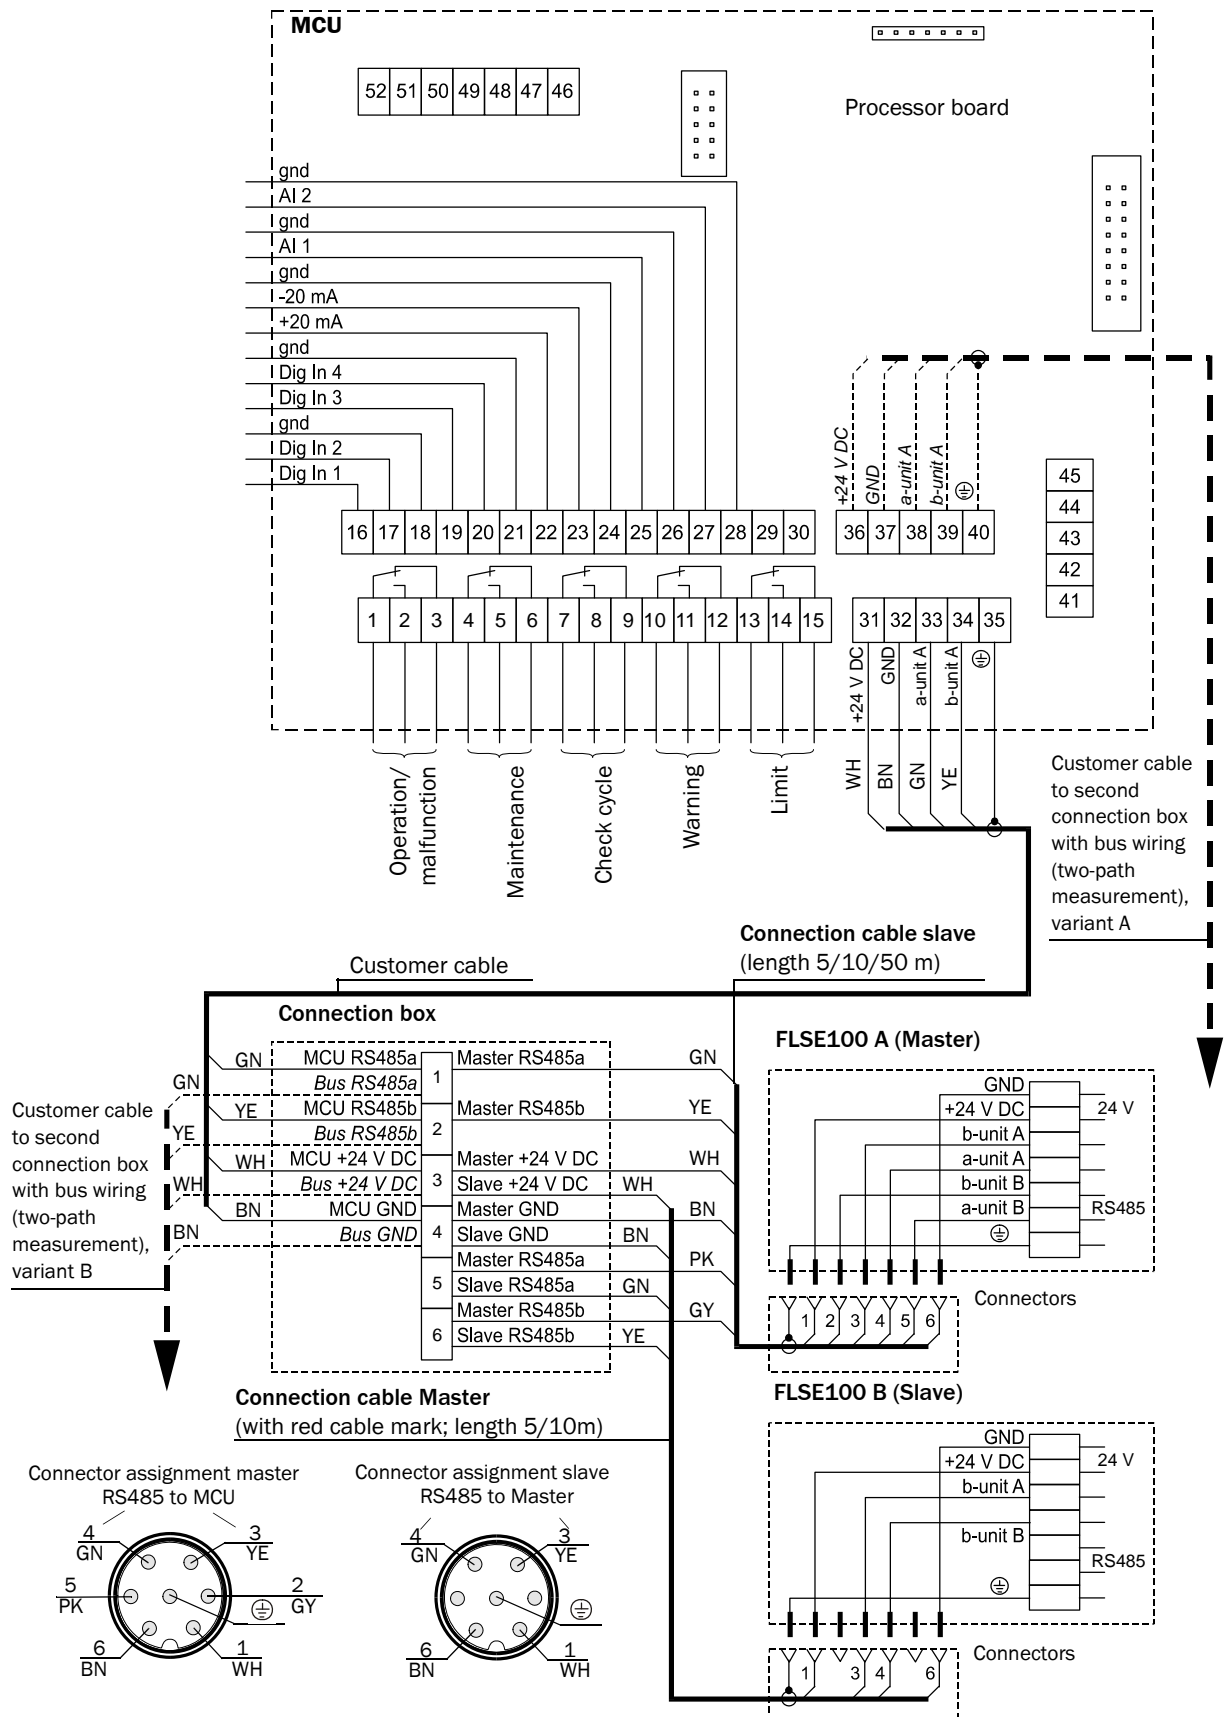

Fig. 3.24: Connecting the sender/receiver units to the MCU (except for type FLSE100-PR, PRAC, SA and SD)
- ▶ Connect the cables for the sender/receiver units as shown in **Fig. 3.24**.